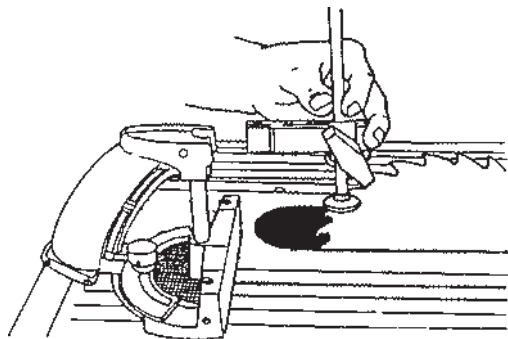

Figure B-73
- 42. Place the miter gauge in the right miter gauge slot, and use a 5/32" Allen wrench to remove the quick clamp from the safety grip, as shown in Figure B-73 (Figure B-72 intentionally skipped).